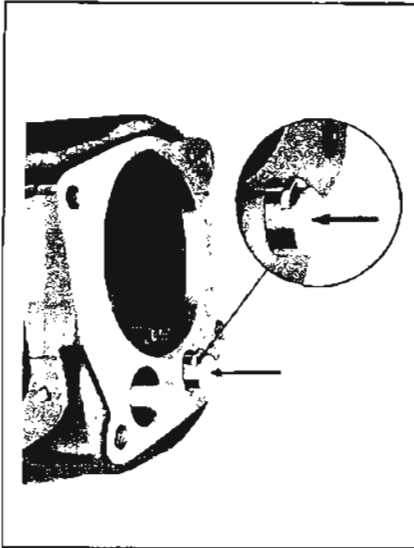

Figure 4-63—Installing Countershaft
6. With the transmission case resting on its front face, move countergear into mesh with main drive gear. Be sure thrust washers remain in place. Install woodruff key into end of countershaft and press shaft (Figure 4-63) until end of shaft is flush with rear face of transmission case.